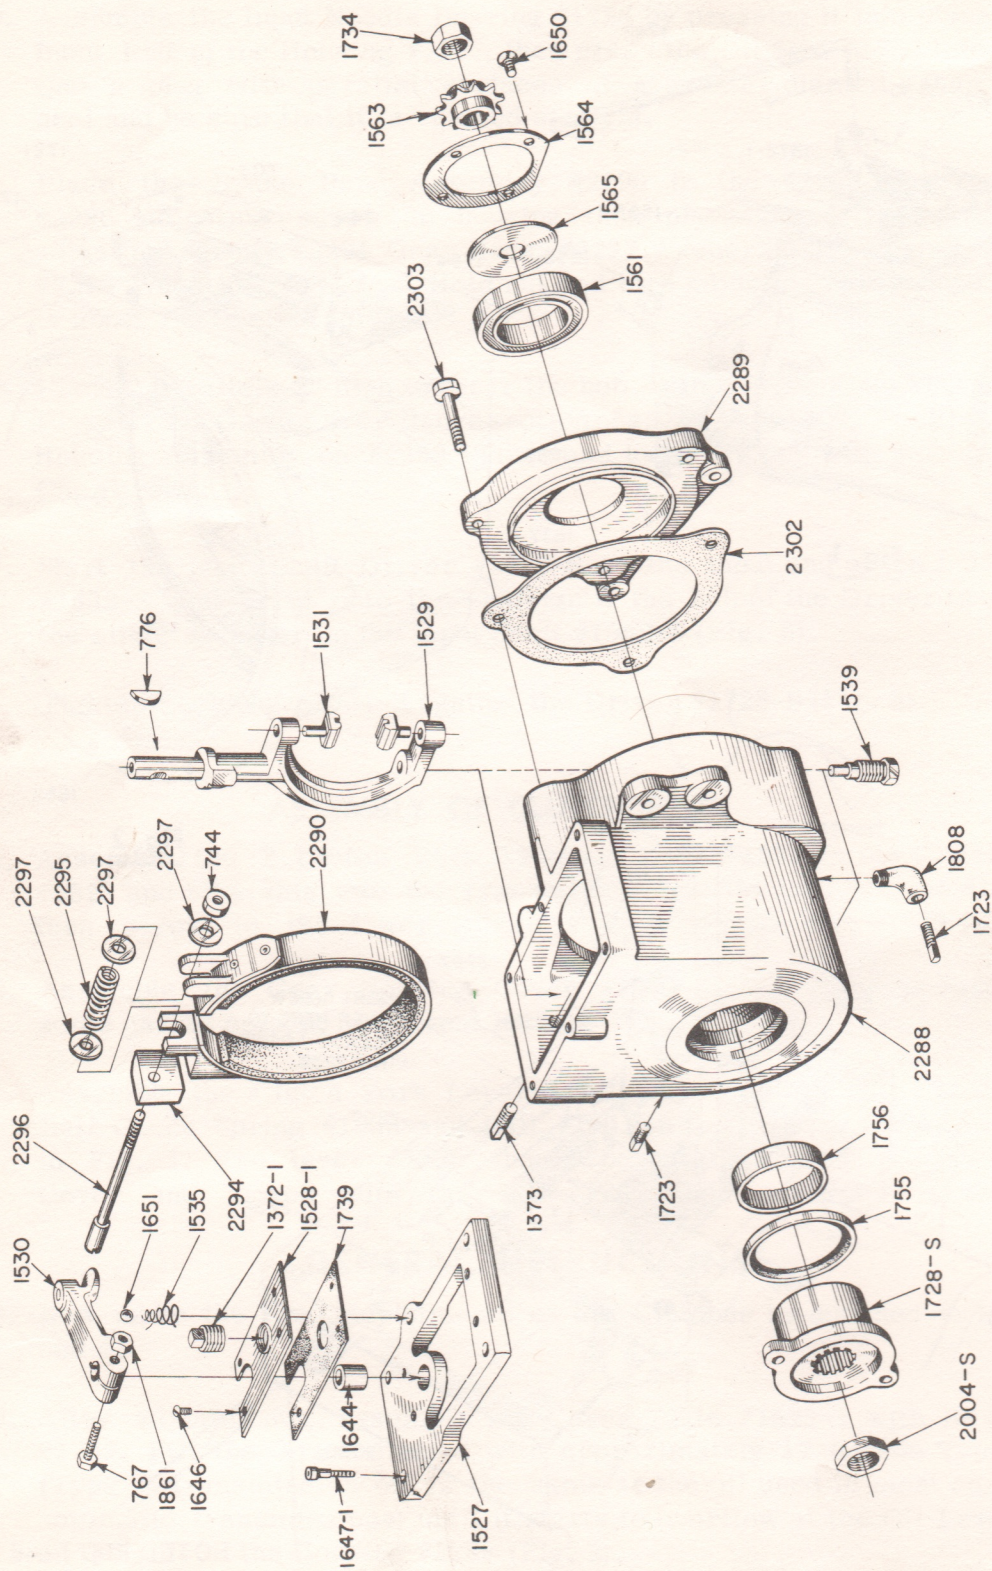

FIGURE 4
22. After removing this nut, the Input Shaft Driver #1728-S can be pulled off the Input Shaft by using a wheel puller or two screw drivers as pries. Be careful not to damage the case of the Oil Seal #1755 (Fig. 4).
23. Remove the Clutch Lever #1530 which is held with a Locking Bolt #767 and Woodruff Key #776 (Fig. 4).
24. Pick out the Clutch Lever Ball Check #1651 and its Spring #1535. Remove Transmission Cover Plate #1528-1 and its Gasket #1739. Next, remove the Transmission Gear Housing Cover #1527 which is held by 6 Socket Head Cap Screws #1647-1 (Fig. 4).
26. Remove the Clutch Fork Lower Fulcrum Stud #1539 which has a hexagon head. This allows the Clutch Fork #1529 to be lifted out with the two Clutch Fork Trunnion Dogs #1531 as shown in Fig. 4.
27. Remove the 3 Transmission Housing Cap Screws #2303 which holds Flange #2289 to Housing #2288 a Gasket #2302 is used as a seal between the housing and flange (Fig. 4).
28. The Flange #2289 with Oil Seal #1755 and Input Bearing #1756 can now be removed and examined. If it is necessary to replace the Brake Band Assembly #2290 remove Adjusting Screw #2296 as shown in (Fig. 4).
46. Assemble the Ball Bearing #1561 into the Housing Flange #2289 and fasten in place with the Output Ball Bearing Retainer Plate #1564 with four  $1/4$ -20 Flat Head Screws #1650 (Fig. 4).
55. Assemble the 2 Clutch Fork Trunnion Dogs #1531 in the Clutch Fork #1529 and slide this into the Transmission onto the Clutch Cone #1533-1, then screw in the lower Clutch Fork Fulcrum Stud #1539 (Fig. 4).
56. Assemble the Gear Housing, Cover #1527 to the Housing #2288 with some gasket cement to prevent leakage (Fig. 4).
57. Assemble the Clutch Fork Lever #1530 and Woodruff Key #776. Insert Ball Check Spring #1535 and Ball #1651 in the Housing Cover as shown in Fig. 1. The lever #1530 should be pushed down within 1/8" of the Cover and locked with the Bolt #767 and Lock Nut #1861 (Fig. 4).